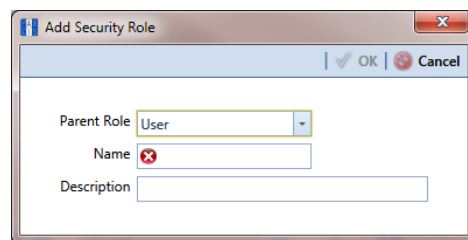

Figure 3-17. Add Security Role
- 2 Click **+** **Add** to open the *Add Security Role* dialog box (Figure 3-17).